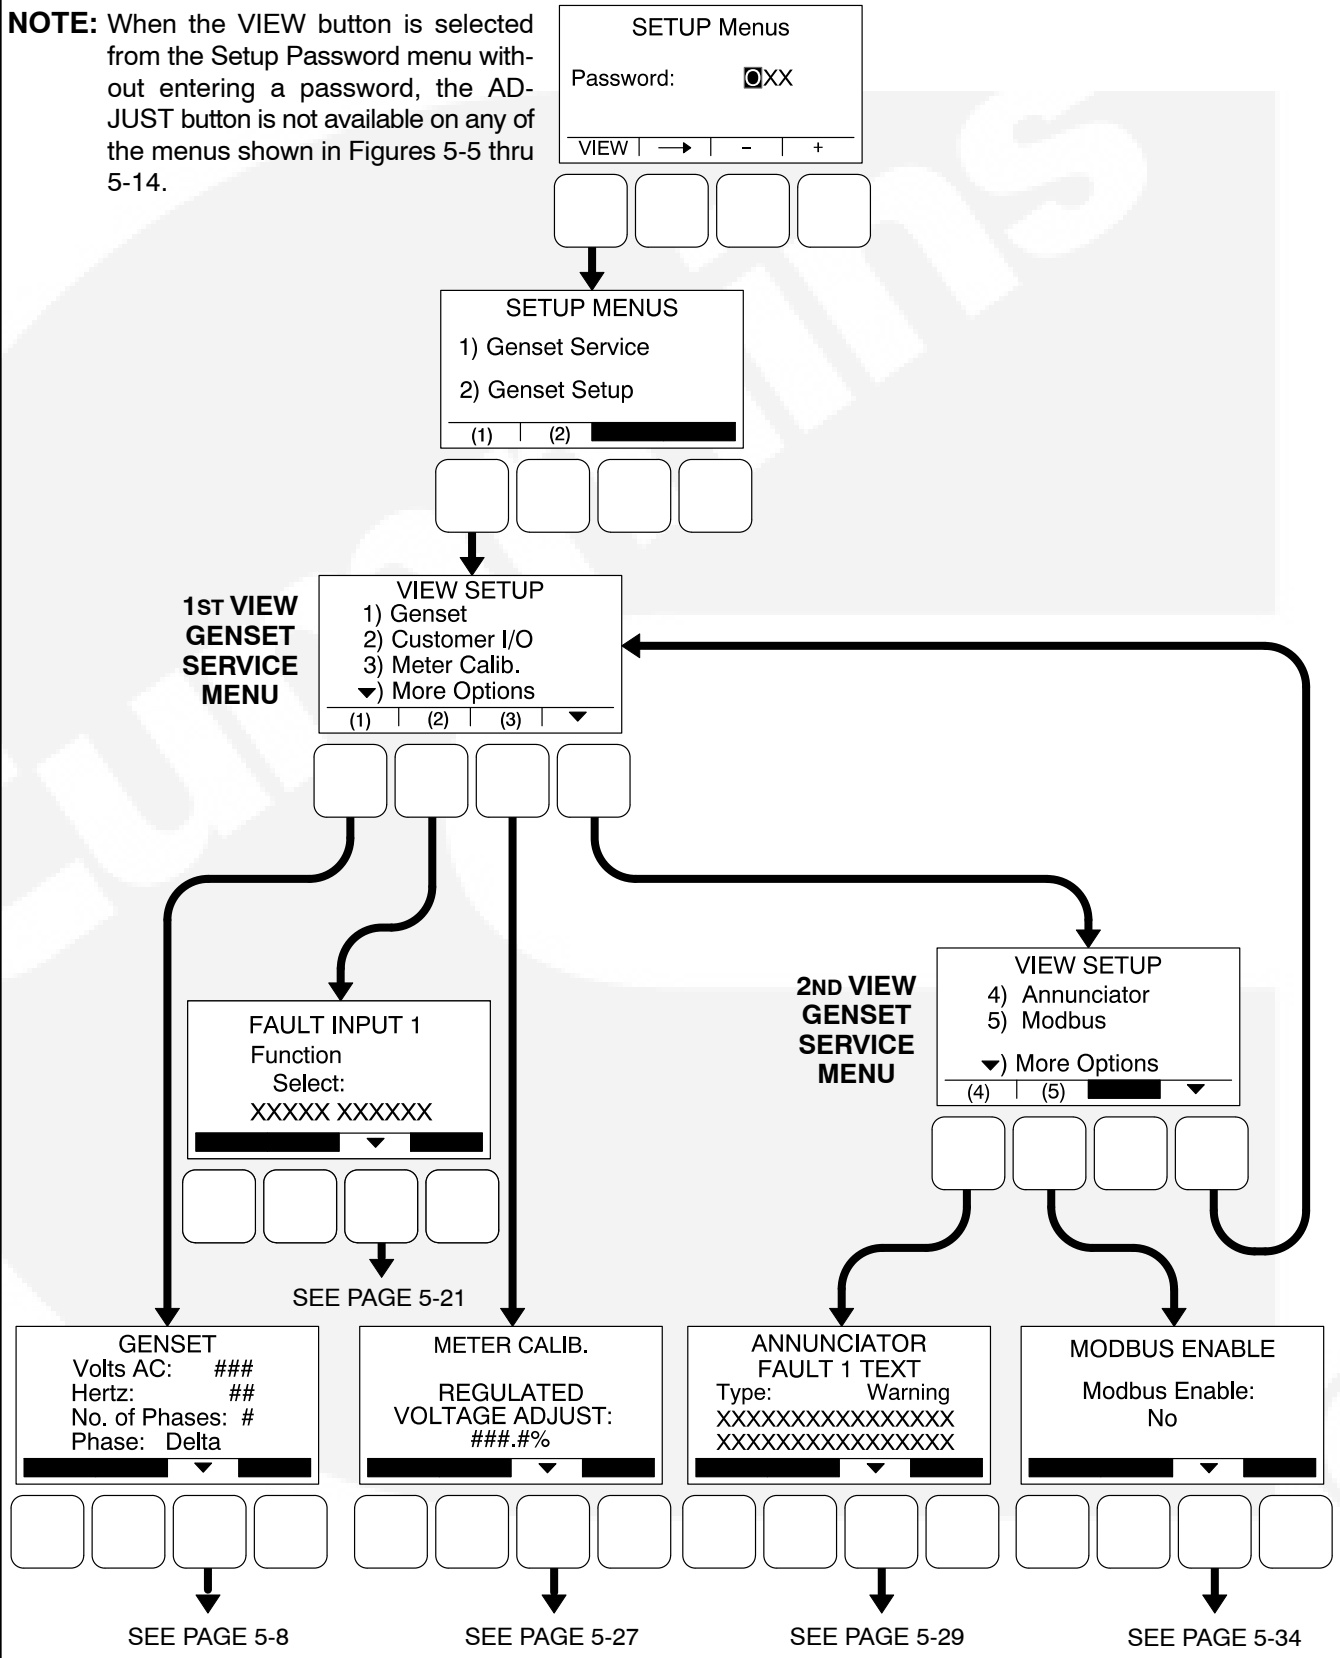
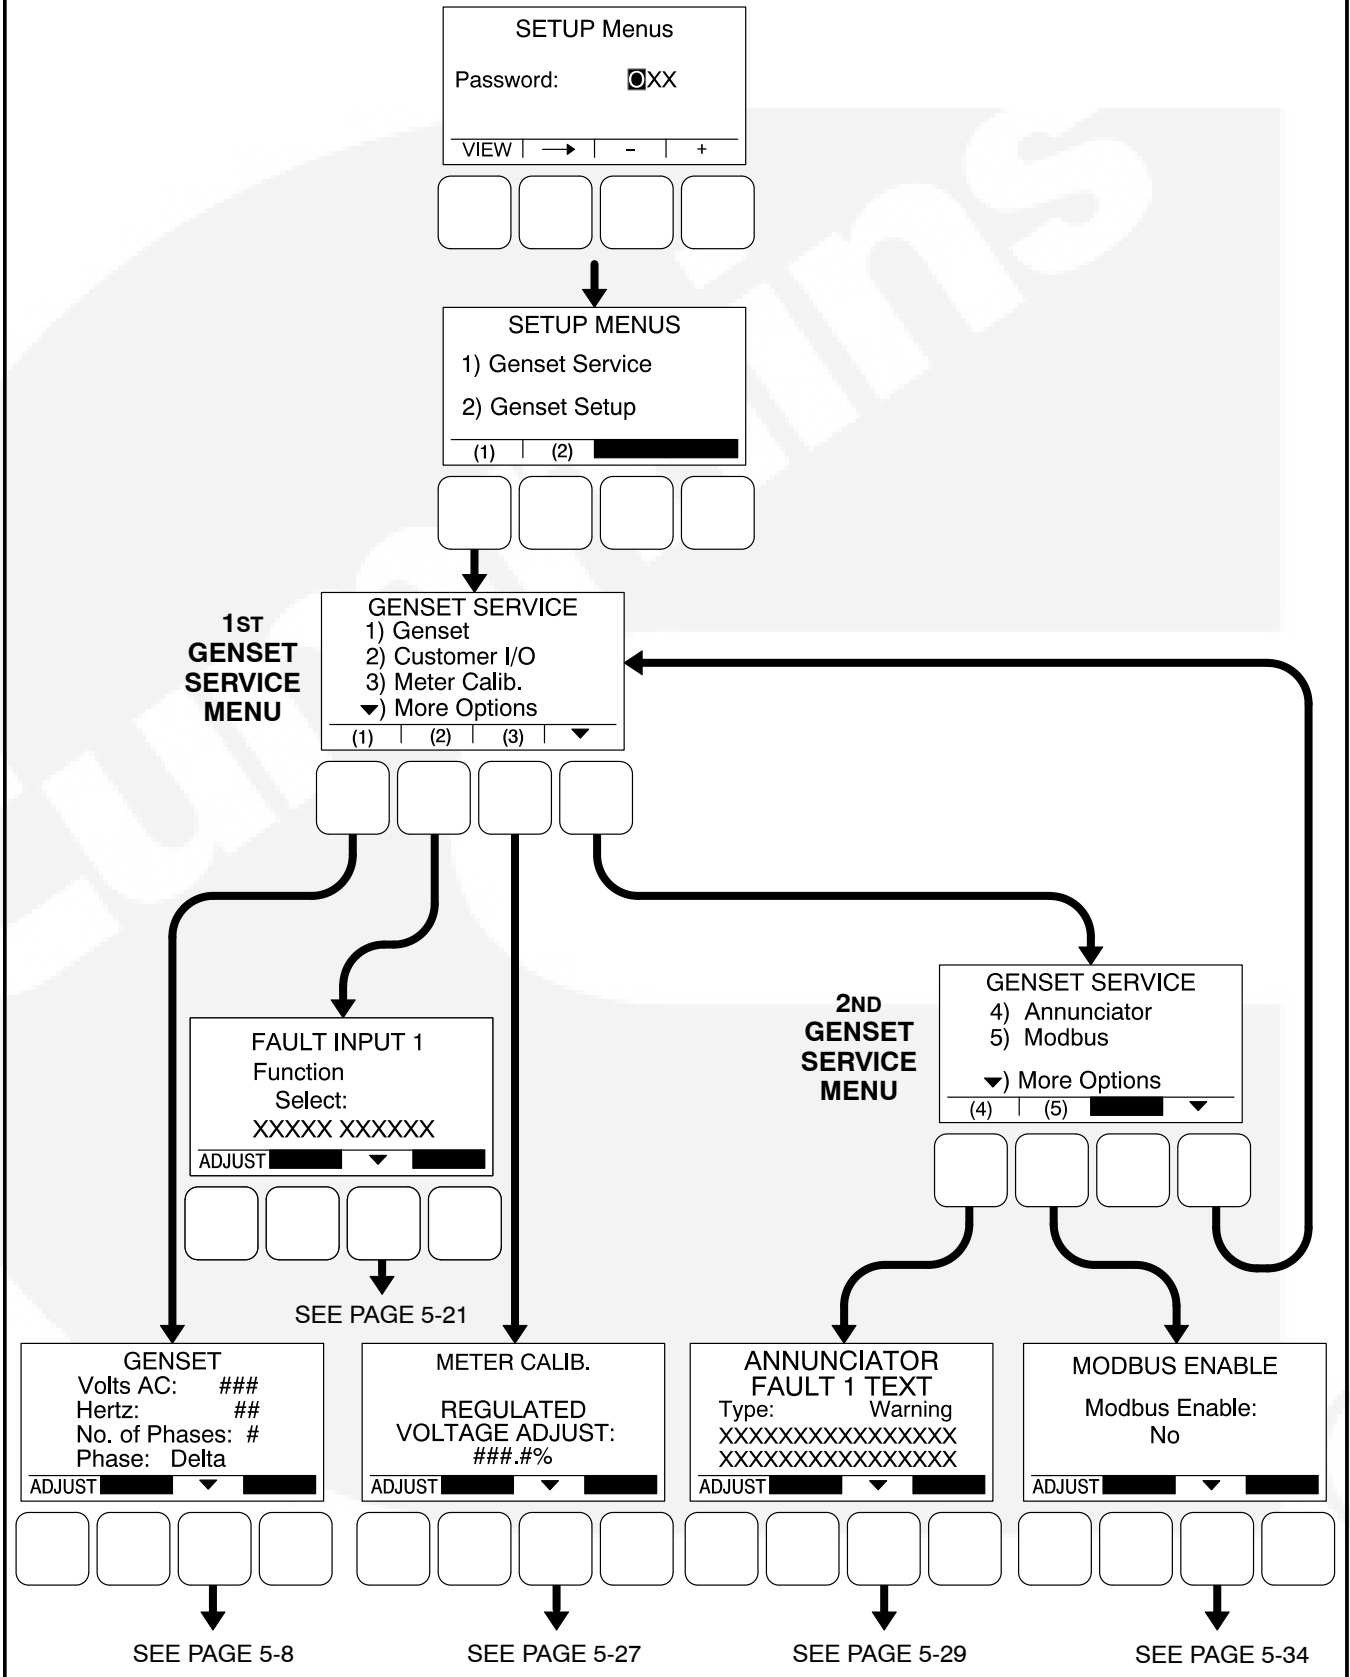

FIGURE 5-3. VIEWING GENSET SERVICE MENUS WITHOUT ENTERING A PASSWORD
FIGURE 5-4. GENSET SERVICE MENUS
Figure 5-3 is a block representation of the Genset Service menus that are available when a password is not entered (or an incorrect password is entered) in the Setup Password menu.
Figure 5-4 is a block representation of the Genset Service menus that are available from the Setup Menu menu after the correct password has been entered. The **ADJUST** button is available on these submenus; therefore, adjusting the settings is allowed.
When the Password menu is displayed, the first numeric character (0) is highlighted (see Figure 5-4).
The Genset Service submenus are available by pressing the **(1)** button on the first Genset Service menu (see Figure 5-3 or Figure 5-4).